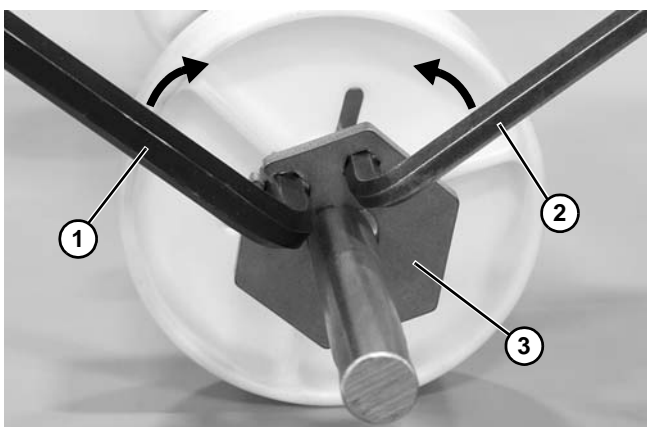

Figure 75
2. Insert an 8 mm (Figure 75, item 1) and 6 mm (Figure 75, item 2) hex wrench into the retainer plate.
3. Move wrenches toward each other to unlock the retainer plate (Figure 75, item 3) and remove from the shaft.